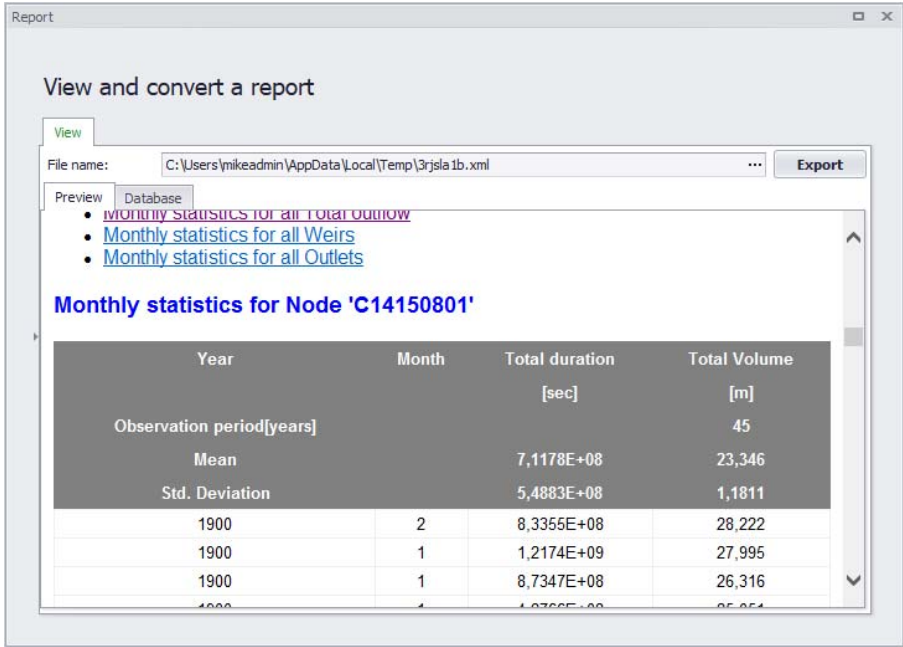

Figure 20.74 Example LTS chronological statistics report
- Click on the ‘OK’ button to create a new LTS chronological statistics report. An example is shown in Figure 20.74. Note that it is not possible to customize data series labels (i.e. Edit alias) for LTS reports, nor is it possible to edit existing LTS reports from the dialog.